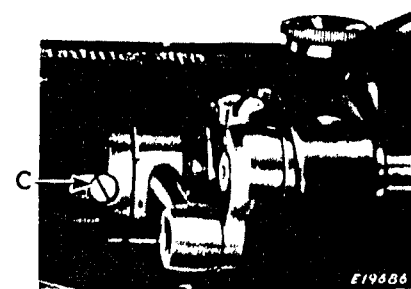
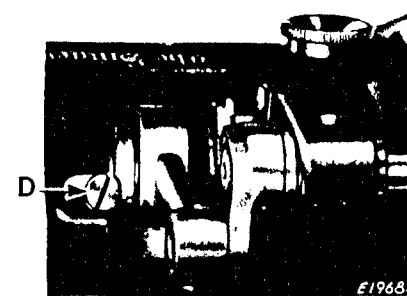

Fig. 19
Fig. 20
height. To change height of lift of the presser feet, loosen the set screw (C, Fig. 19) in the lifting eccentric and turn the machine pulley so that the adjusting screw (D, Fig. 20) is accessible. To increase the amount of lift, turn the screw (D) counterclockwise. To decrease the amount of lift, turn the screw (D) clockwise. Then turn the machine pulley and retighten the screw (C).